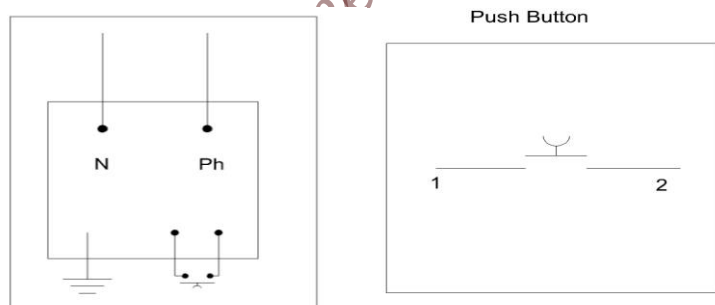

**Figure 8.3:** The Electrical plan for the Distribution Board and kWh meter, stair-case lighting and Electric bell
1. Connect the kWh meter with the main cable; phase and neutral conductors. **Make sure that the main cable terminals are NOT connected to the supply.** The connection of the kWh meter was specified earlier in the introduction and is shown in Figure 8.3
2. Install the phase, neutral, and earth bus-bars inside the Distribution Board (DB)
8. Connect the wires of appropriate colors, lengths and cross sectional areas, between kWh meter and MCBs, EL and phase, neutral and earth bus bars in the DB, as shown in Figure 8.3
The transformer-primary of electrical-bell will be fed from  $L_3$  – MCB via  $1.5\text{mm}^2$ . An earth conductor must be connected between the earth bus-bar in DB and the earth pin of the bell. The push button, located outside the flat, will be connected to the terminals assigned for it on the electric bell, as shown in Figures 8.3 and 8.4. To install the bell and the bush button, follow the following steps (**note that all wires in the same conduit should be run simultaneously**):
A relay timer will be used to control the lighting of the living room (usually the timer relay is used to control the lighting of a stair case). The lighting will be activated by two push buttons located in the living room (in practice, the push buttons are located (at accessible locations) within the stair case, and so are the timer-controlled lighting fixtures). In this task, two lamps located in the living room will be controlled by the timer, as shown in Figure 8.3. The timer terminals configuration is shown in Figure 8.5. To implement the timer controlled lighting,